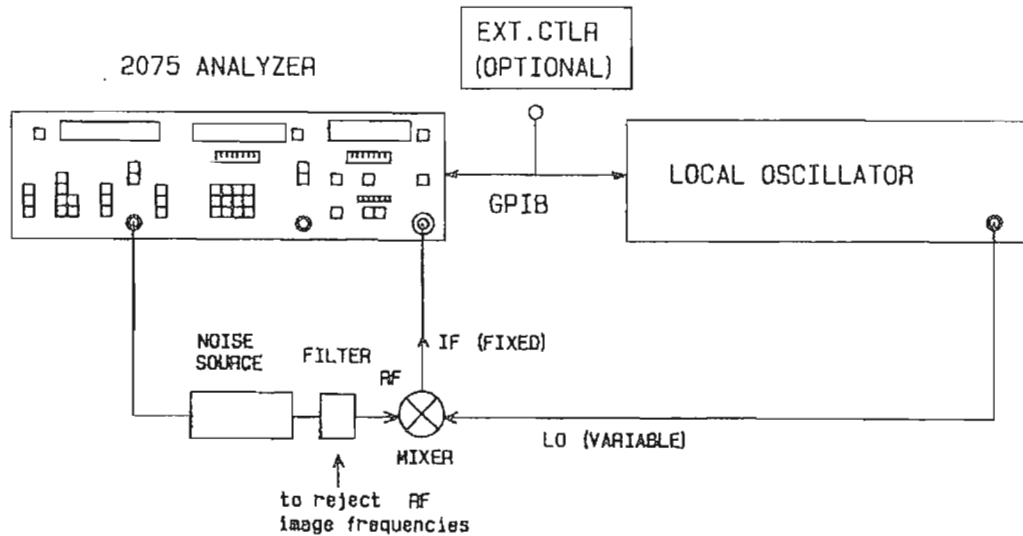

Figure 3-8a. TEST CONFIGURATION 2 CALIBRATION (SINGLE SIDEBAND)
Figures 3-8a and 3-8b are the connection diagrams for calibration and measurement when external relays are not used. An optional setup can be used where external relays, controlled by the 2075, provide a calibration path. (See Paragraph 3-34, page 3-75.)
1. Connect the test equipment as shown in the calibration setup of Figure 3-8a or the optional setup using external relays.